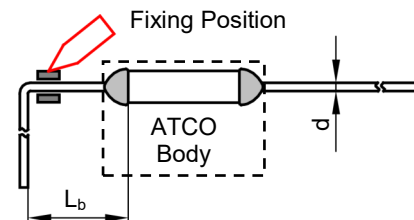

FIGURE M-2
2. When bending leads, please use pincher or similar tools to fix the product as shown in Fig.M-2, to avoid damaging the product.